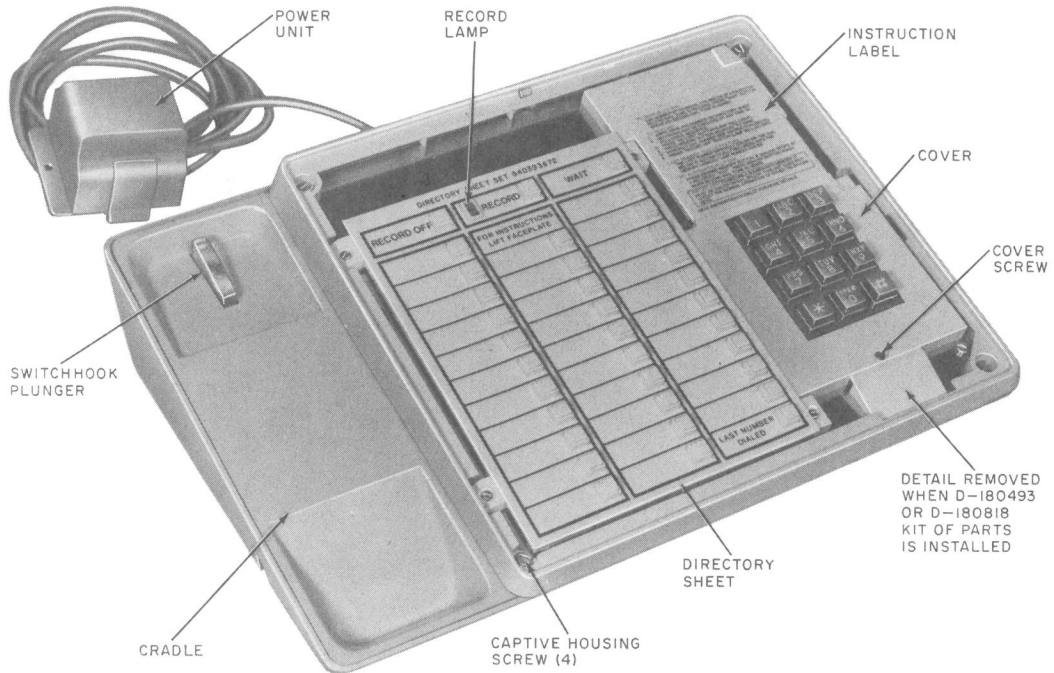

Fig. 2—Telephone Set—Faceplate and Handset Removed
2.06 Operating Features (Fig. 2).
3.05 The directory sheets (Fig. 2) fit over the buttons of the Memory and are held in place by the faceplate. Additional sheets are available in the directory sheet set (840393672).
(5) Make connections per Table C, E, or F.
(6) Break off the detail at the bottom of the cover (Fig. 2) and trim edge as required.
(7) Verify correct operation of option.
(8) Reassemble self.